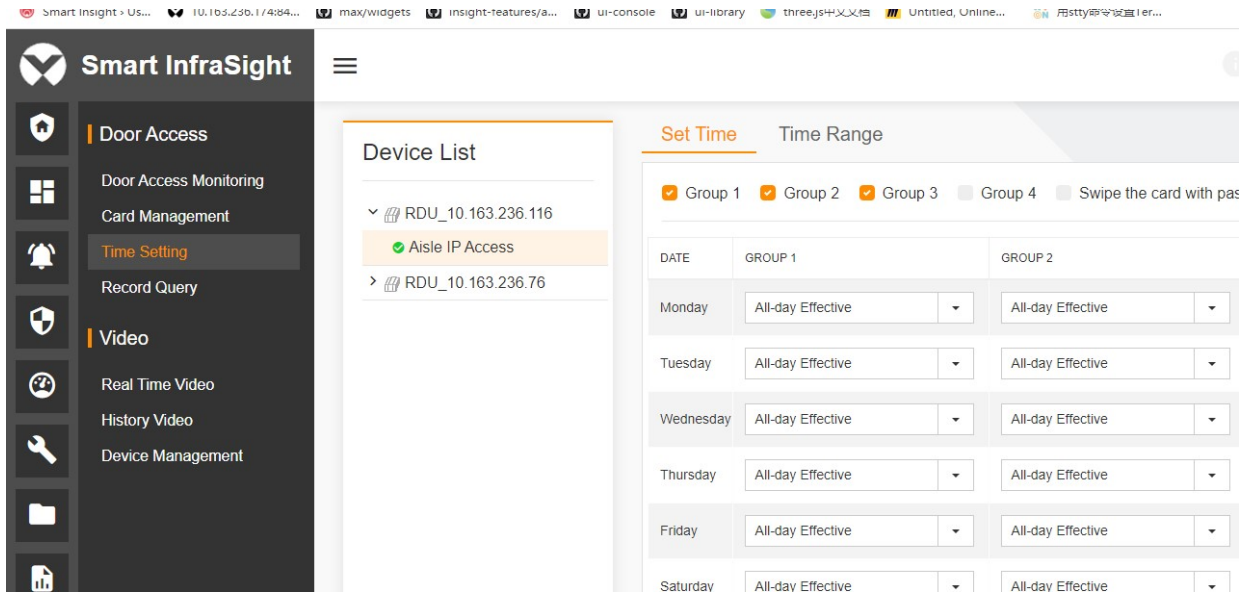

Figure 13-43 Selecting Swipe the card with password
4. If you select **Swipe the card with password**, the **SWIPE THE CARD WITH PASSWORD** column is displayed. If you do not select **Swipe the card with password**, the **SWIPE THE CARD WITH PASSWORD** column is not displayed, as shown in Figure 13-43.